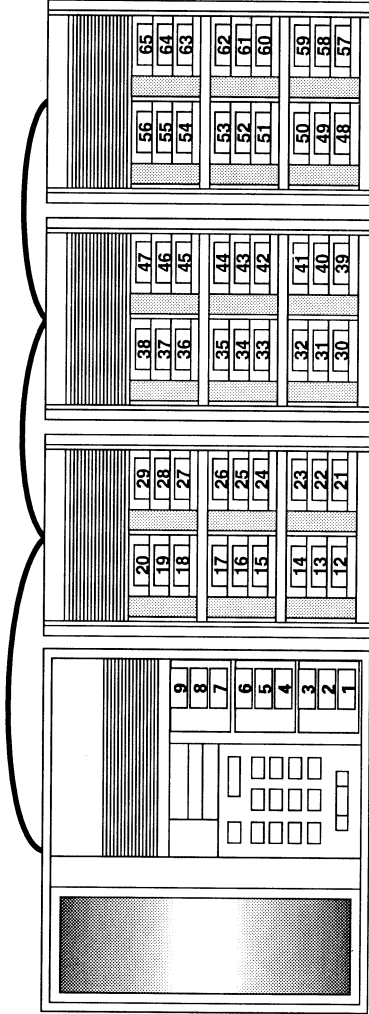
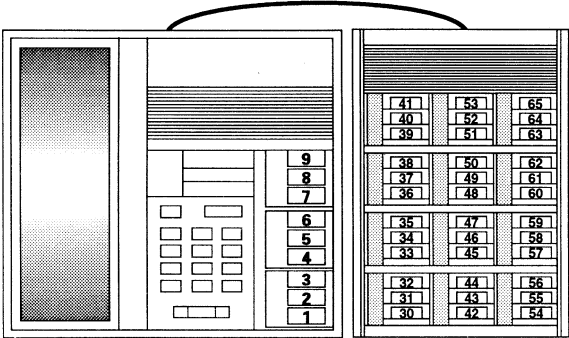
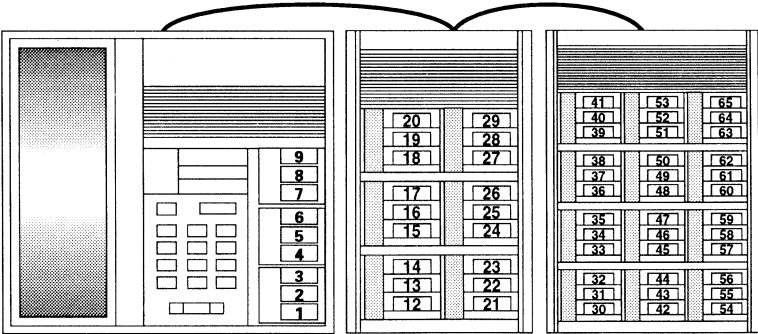

Fig. 2
Fig. 3
Fig. 4
Step 3: Select the number on the key pad of the MBS that corresponds with the key numbering plan illustrated in Fig. 2, Fig. 3 and Fig. 4 on pages 4 and 5.